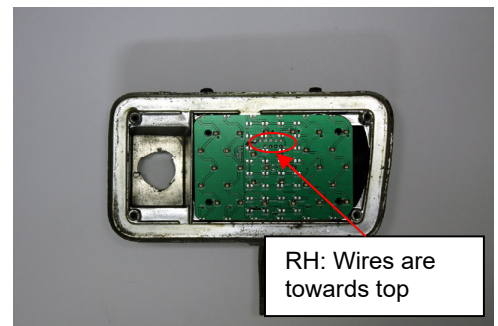
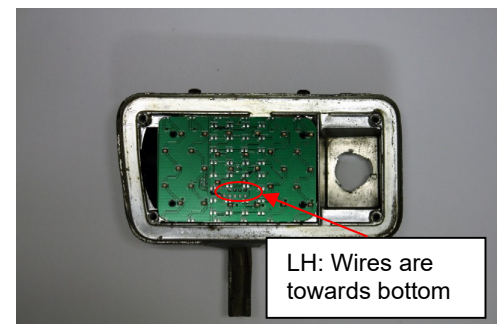

Figure 3
Figure 4
- 5.1. ORIENTATION OF PANELS – The panels must be orientated properly in order for the sequential patterns to be correct. Right Hand (RH) panel is mounted with the wire connections towards the top of the housing. (See Figure 3) The Left Hand (LH) panel is mounted with the wire connections towards the bottom of the housing. (See Figure 4)
- 5.2. If the Pink wire grommet was installed, pass the wire Pink wire from the LED panel through the grommet hole. (See Figure 3)
- 5.5. Remove the cover tape from the mounting foam on back of panel. Align the LED panel within the housing. (See Figures 3 & 4) When LED panel is centered properly, press into place.